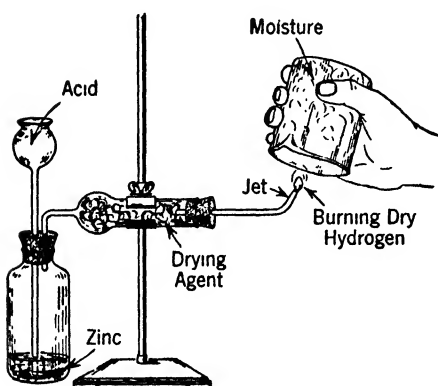

FIG. 5-15.—When this apparatus is used, we know conclusively that the water formed must be a product of the burning at the jet.
When it does so, water is the only product. When this experiment, illustrated by Fig. 5-15, is performed, the hydrogen is dried in order to prove that the moisture that collects has not been carried over from the generator to the beaker that acts as a condenser.
19. Why is hydrogen dried in the experiment in which hydrogen burns in air? (See Fig. 5-15.)